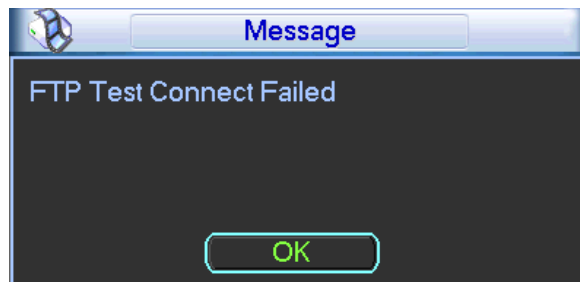

Figure 5-32
- Click the Test button, you can see the corresponding dialogue box to see the FTP connection is OK or not. See Figure 5-32.